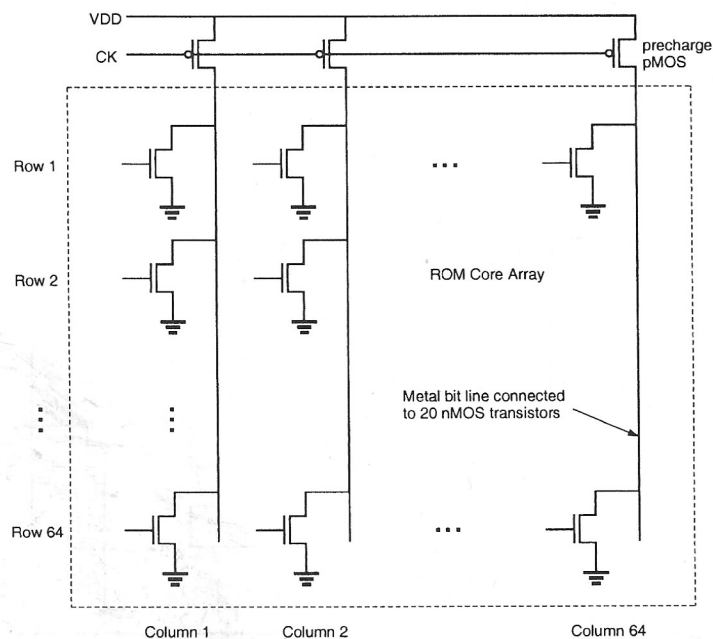

Figure P10.3
- 10.3 A dynamic CMOS read-only memory (ROM) has been designed with a core array consisting of 64 rows with a pitch of $12 \mu\text{m}$ and 64 columns with a pitch of $10 \mu\text{m}$, as shown in Fig. P10.3. Each column is precharged to 5 V by a pMOS transistor during the interval of zero clock phase and then is pulled down after the clock signal switches to 5 V by one or more nMOS transistors (i.e., NOR implementation) with high gate inputs on the appropriate rows. All of the nMOS transistors have channel widths $W = 4 \mu\text{m}$ and source/drain lengths $Y = 5 \mu\text{m}$. As a designer, you are to determine the propagation delay time from a particular input (on row 64) going high to a particular bit line output (on column 64) going low τ_{PHL} between 50% points. Assume that the input signal to row 64 becomes valid-high only after the precharge operation is finished, as shown in the timing diagram. Also, assume that row 64 is running over 30 nMOS transistors and column 64 has 20 nMOS transistors connected to it. For the delay calculation, assume that only one nMOS transistor is pulling down. Also assume that pMOS is strong enough to fully charge the precharging node during the precharge phase of